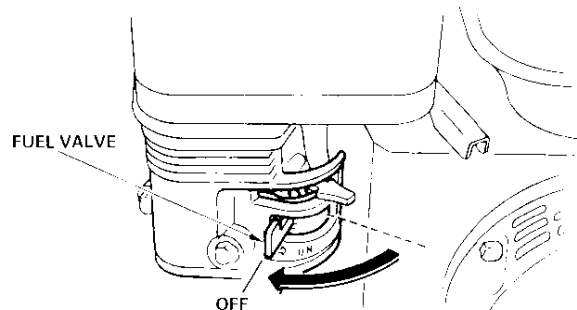

Figure 17. Fuel Valve Lever (OFF Position)
3. Close the **fuel shut-off valve** (Figure 17) by moving the fuel valve lever to the **OFF** position.